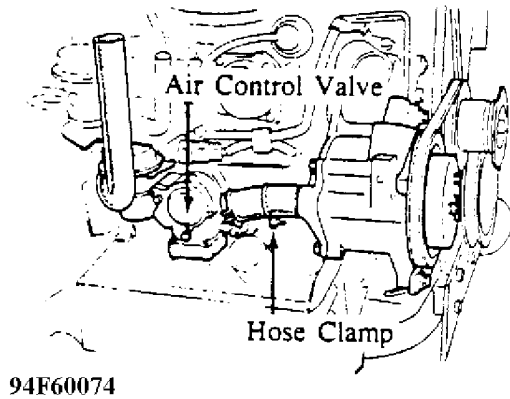

Fig. 8: Sliding Clamp on Air Hose (Air Control Valve Side)
3. Slide the clamp on the air pump side of the air hose back down the hose. See Fig. 8.